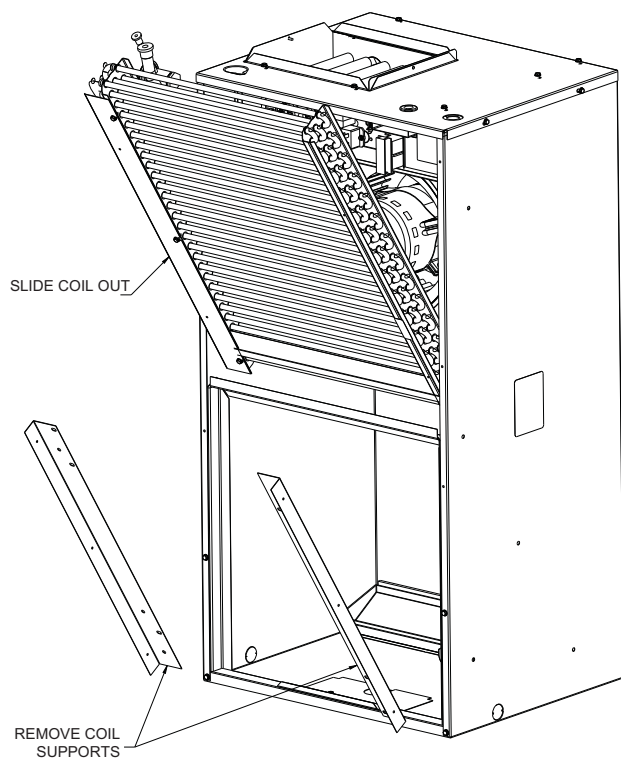

Fig. 5 – Remove Coil Assembly
7. Remove coil assembly from unit. (See Fig. 5)
8. Remove six (6) screws securing coil supports to casing. Remove old coil support and discard. (See Fig. 5)